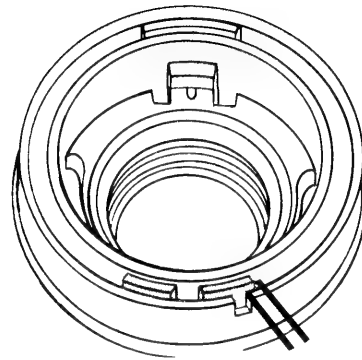

Figure 3-11. Position of Notches at Thread Limit if Engagement is Correct
3. Carefully line up the parts and engage the threads with a clockwise rotation of the inner helicoid assembly. Continue turning to the limiting position. If the helicoid threads are correctly engaged, the notches in the outer helicoid and the tip of the cam ring will appear as shown in Figure 3-11. (Be sure that the helicoid frame is still at the infinity position against the infinity stop.) If the position is not correct, separate the parts and repeat Steps 1 through 4 above.